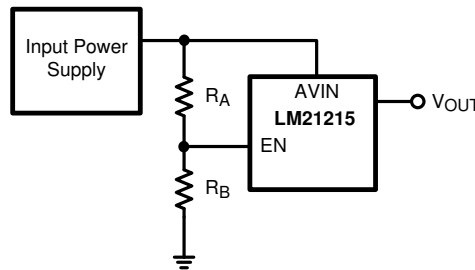

Figure 8-3. Enable Start-Up Through V_{IN}
The LM21215 has a built-in undervoltage lockout protection circuit that keeps the device from switching until the input voltage reaches 2.7 V (typical). The UVLO threshold has 200 mV of hysteresis that keeps the device from responding to power-on glitches during start-up. If desired, the turn-on point of the supply can be changed by using the precision enable pin and a resistor divider network connected to VIN as shown in Figure 8-3 in the design guide.
The enable (EN) pin of the LM21215 allows the output to be toggled on and off. This pin is a precision analog input. When the voltage exceeds 1.35 V, the controller will try to regulate the output voltage as long as the input voltage has exceeded the UVLO voltage of 2.7 V. There is an internal current source connected to EN so if enable is not used, the device will turn on automatically. If EN is not toggled directly, the device can be pre-programmed to turn on at a certain input voltage higher than the UVLO voltage. This can be done with an external resistor divider from AVIN to EN and EN to AGND as shown in Figure 8-3.